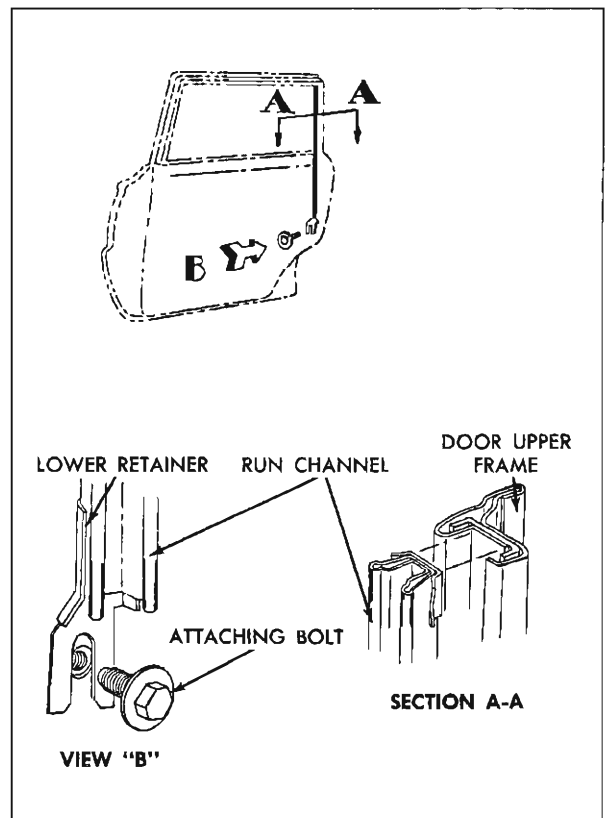

Fig. 3-45 Run Channel "35-45" Styles
2. From inside door, remove bolt securing lower end of glass run channel at door lock pillar facing (see Fig. 3-45).